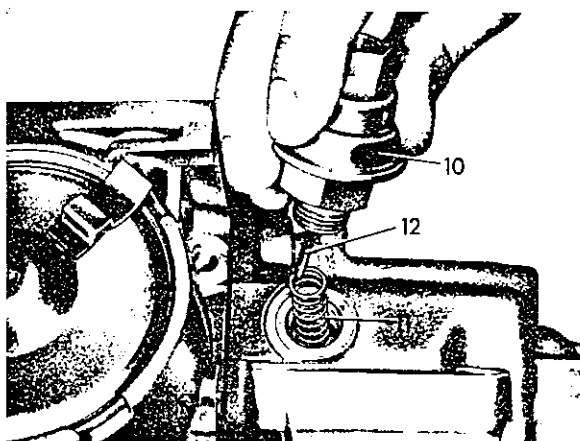

Fig. 42
23 Coat threads of vacuum cell (10) with sealing compound and screw vacuum cell down into rear transmission case, together with pressure pin (12) and spring (11) **Fig. 42**